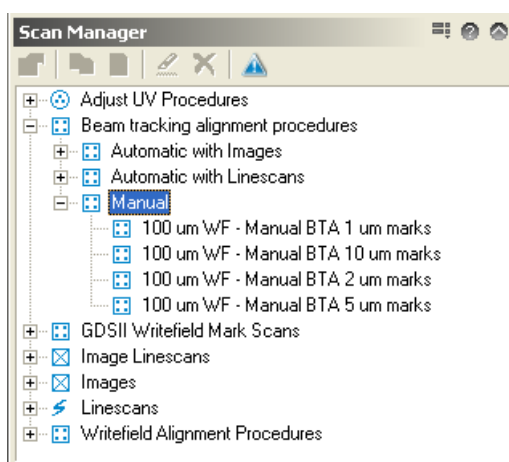

Figure 21: Manual beam tracking alignment procedures.
12. **If you do use the fixed-beam moving-stage mode** in your patterns, you also have to perform Beam-tracking alignment, which is very similar to the writefield alignment procedures. **If you do not use the FBMS jump to step 15.** The corresponding procedures are stored in the scan manager under 'Beam tracking alignment procedures' - see figures 21 and 22. With these procedures the electronics deflecting the beam during a fixed-beam moving-stage exposure are calibrated (The beam is not completely fixed but corrects errors of the stage movement - otherwise it would be very difficult to expose sharp corners for example).